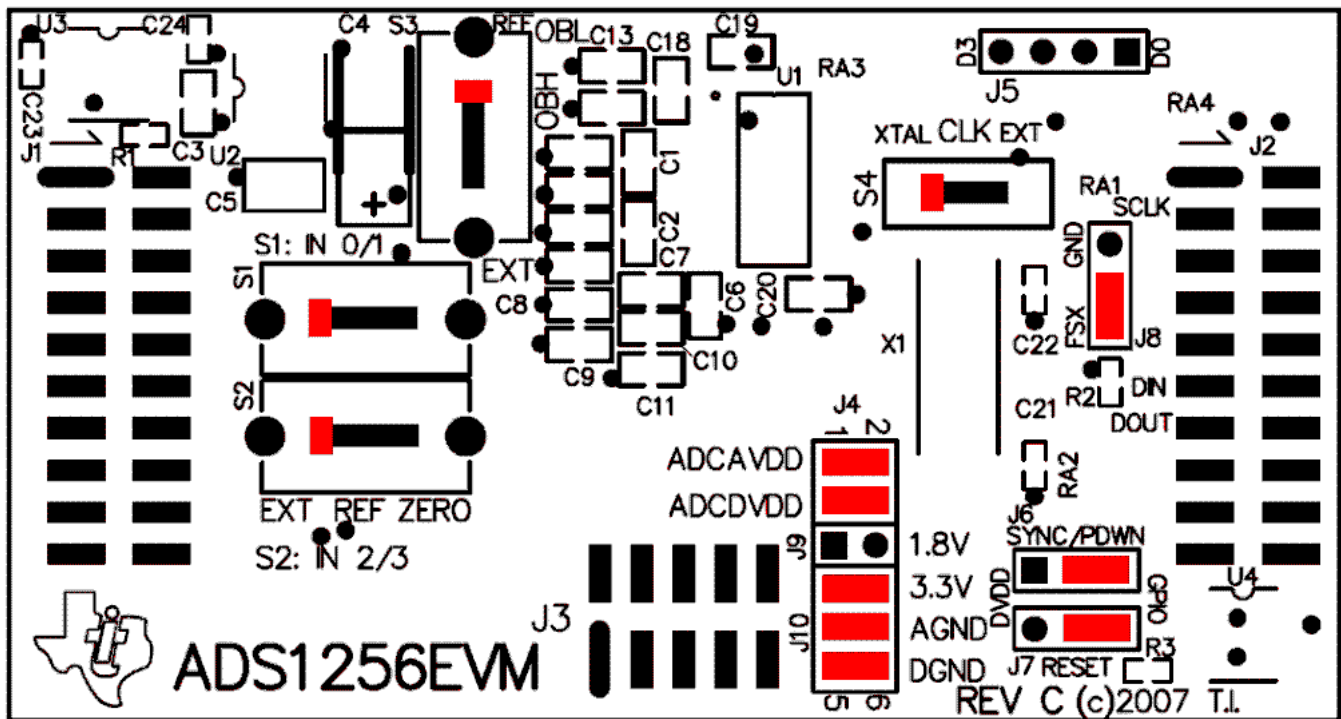

Figure 7. ADS1256EVM Default Jumper and Switch Locations
Figure 7 shows the jumpers and switches found on the EVM and the respective factory default conditions for each.
- Set jumper block J4 as shown in Figure 7.
- Set up jumper block J3 as shown; refer to Figure 7.